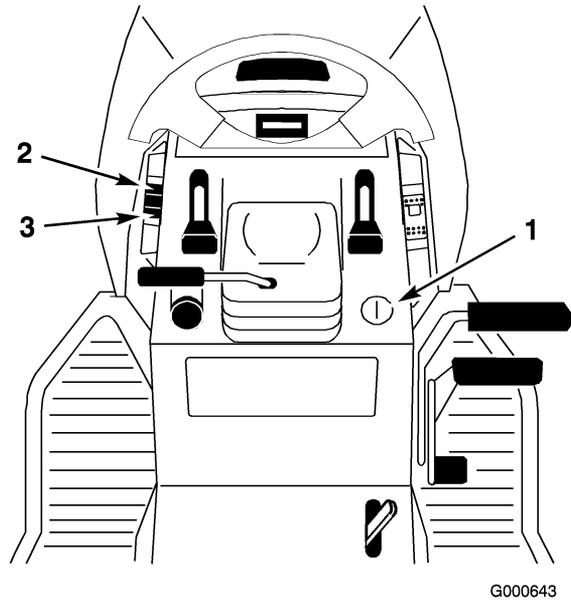

Figure 23
The attachment power lift (Figure 23) is used to raise and lower attachments.
1. Turn key to the on or run position (Figure 23).
2. Push the lift switch in the up direction to raise the attachment lift (Figure 23).
2. Push the lift switch in the down direction to lower the attachment lift (Figure 23).